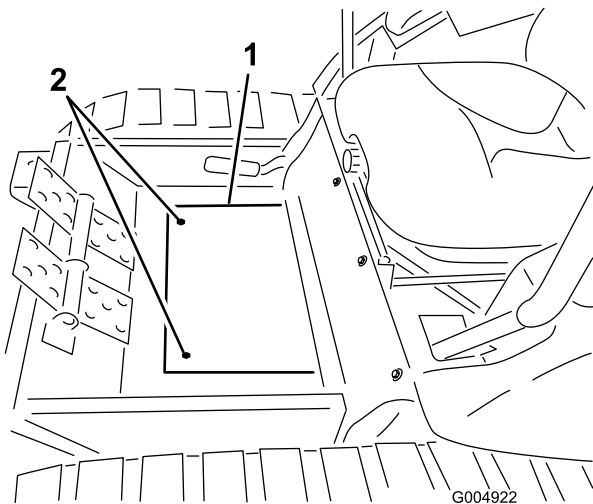

Figure 33
25. Install the winter frame floor plate cover to the floor with the screws previously removed (Figure 33).